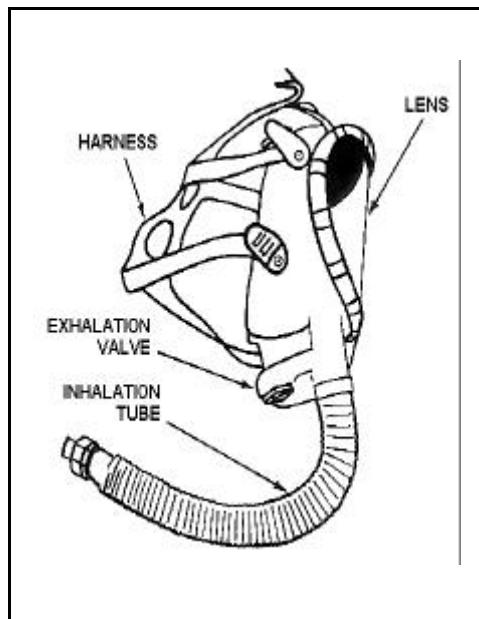
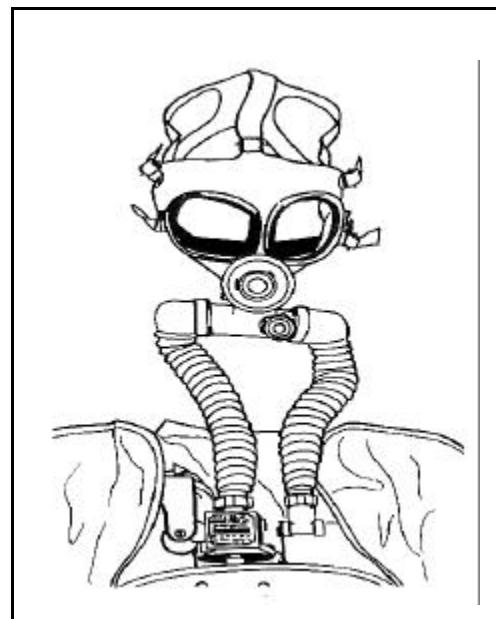

Figure 11-34. Single Hose Facepiece
Figure 11-35. Dual Hose Facepiece
11-155. The facepiece is an assembly that fits onto the face of the person using the breathing apparatus. The facepiece forms a tight seal to the face and transmits air or oxygen to the user. The standard facepieces (Figure 11-34 and Figure 11-35) are shown with the breathing apparatus covered in this paragraph.
- **Exhalation valve.** The exhalation valve on a single hose facepiece (Figure 11-34) is a simple one-way valve. It consists of a thin disk of rubber, neoprene, or plastic resin, secured in the center of the facepiece. It may be contained in a hard plastic mount located at the front of the chin area. The exhalation valve, commonly referred to as the “flutter valve,” releases exhaled breath from the facepiece.
- **Flexible tubes.** The flexible inhalation tube carries fresh air or oxygen to the facepiece. In the facepiece with dual hoses (Figure 11-35), the exhalation tube returns exhaled breath from the facepiece to the canister. The inhalation and exhalation valves controls airflow through these tubes. Like the facepiece, the flexible tubes are made of oil-resistant rubber, neoprene, or plastic resin. In use, the tubes must be kept free and unkinked for the proper flow of air. Avoid all unnecessary strain on these tubes. If they become tangled in any way, they must be freed carefully. DO NOT pull them free.